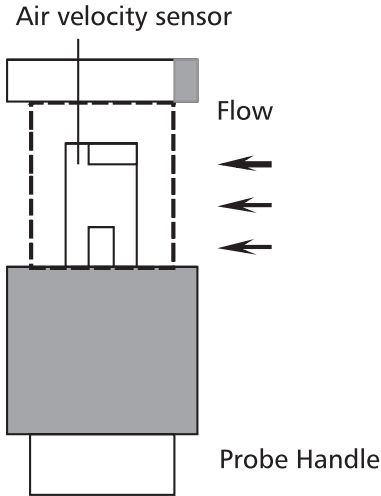
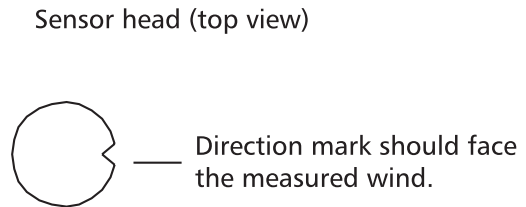

Fig 4
Fig 5
There is mark on the top of the "Sensor Head", When make the measurement, then this mark should against the measured wind, refer Fig. 4, Fig5.When sensor head face against the measurement air, then sensor head face against the measurement air, then the upper display will show the air velocity value. The lower display will show the temperature value.
- 5.Slide the sensor cover to the down position, let the air velocity sensor to contact the air, refer Fig.2. Extend the telescope probe to the convenient length, refer Fig.4.